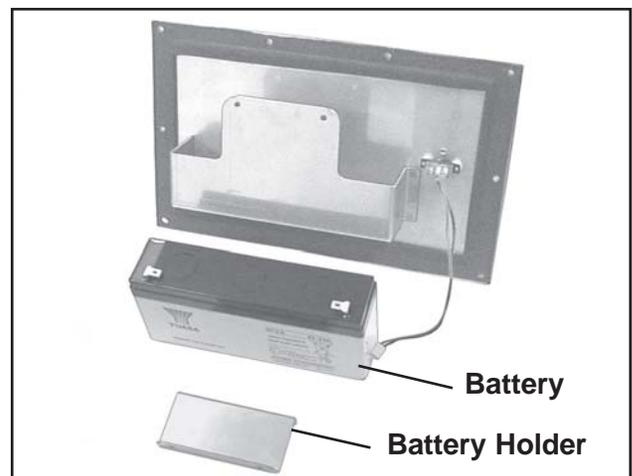

Figure 40. Battery & Holder
9. Lift out the battery holder (Figure 40).